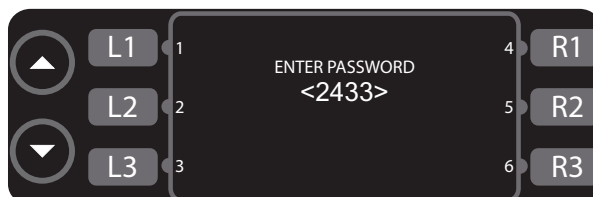

Figure 23: Password Screen
3. Input the password 2 4 3 3 (Figure 23).